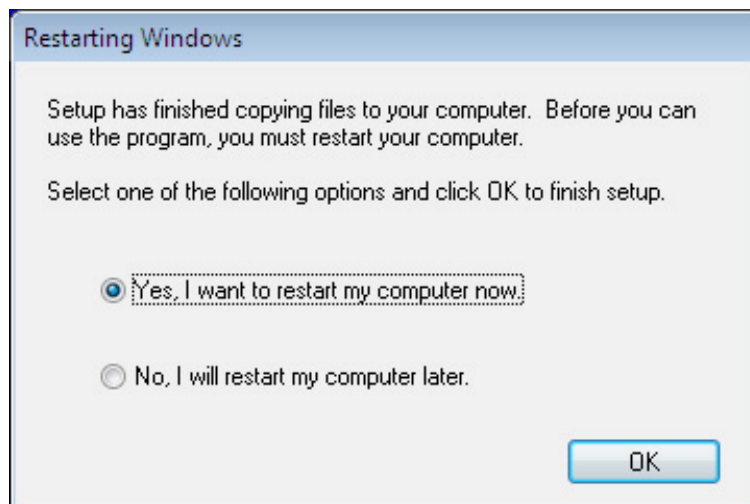

Figure 6-18: Audio Driver Installation Complete
Step 7: When the driver is installed, the driver installation finish screen in **Figure 6-18** appears. Select **“Yes, I want to restart my computer now”** and click **OK**.